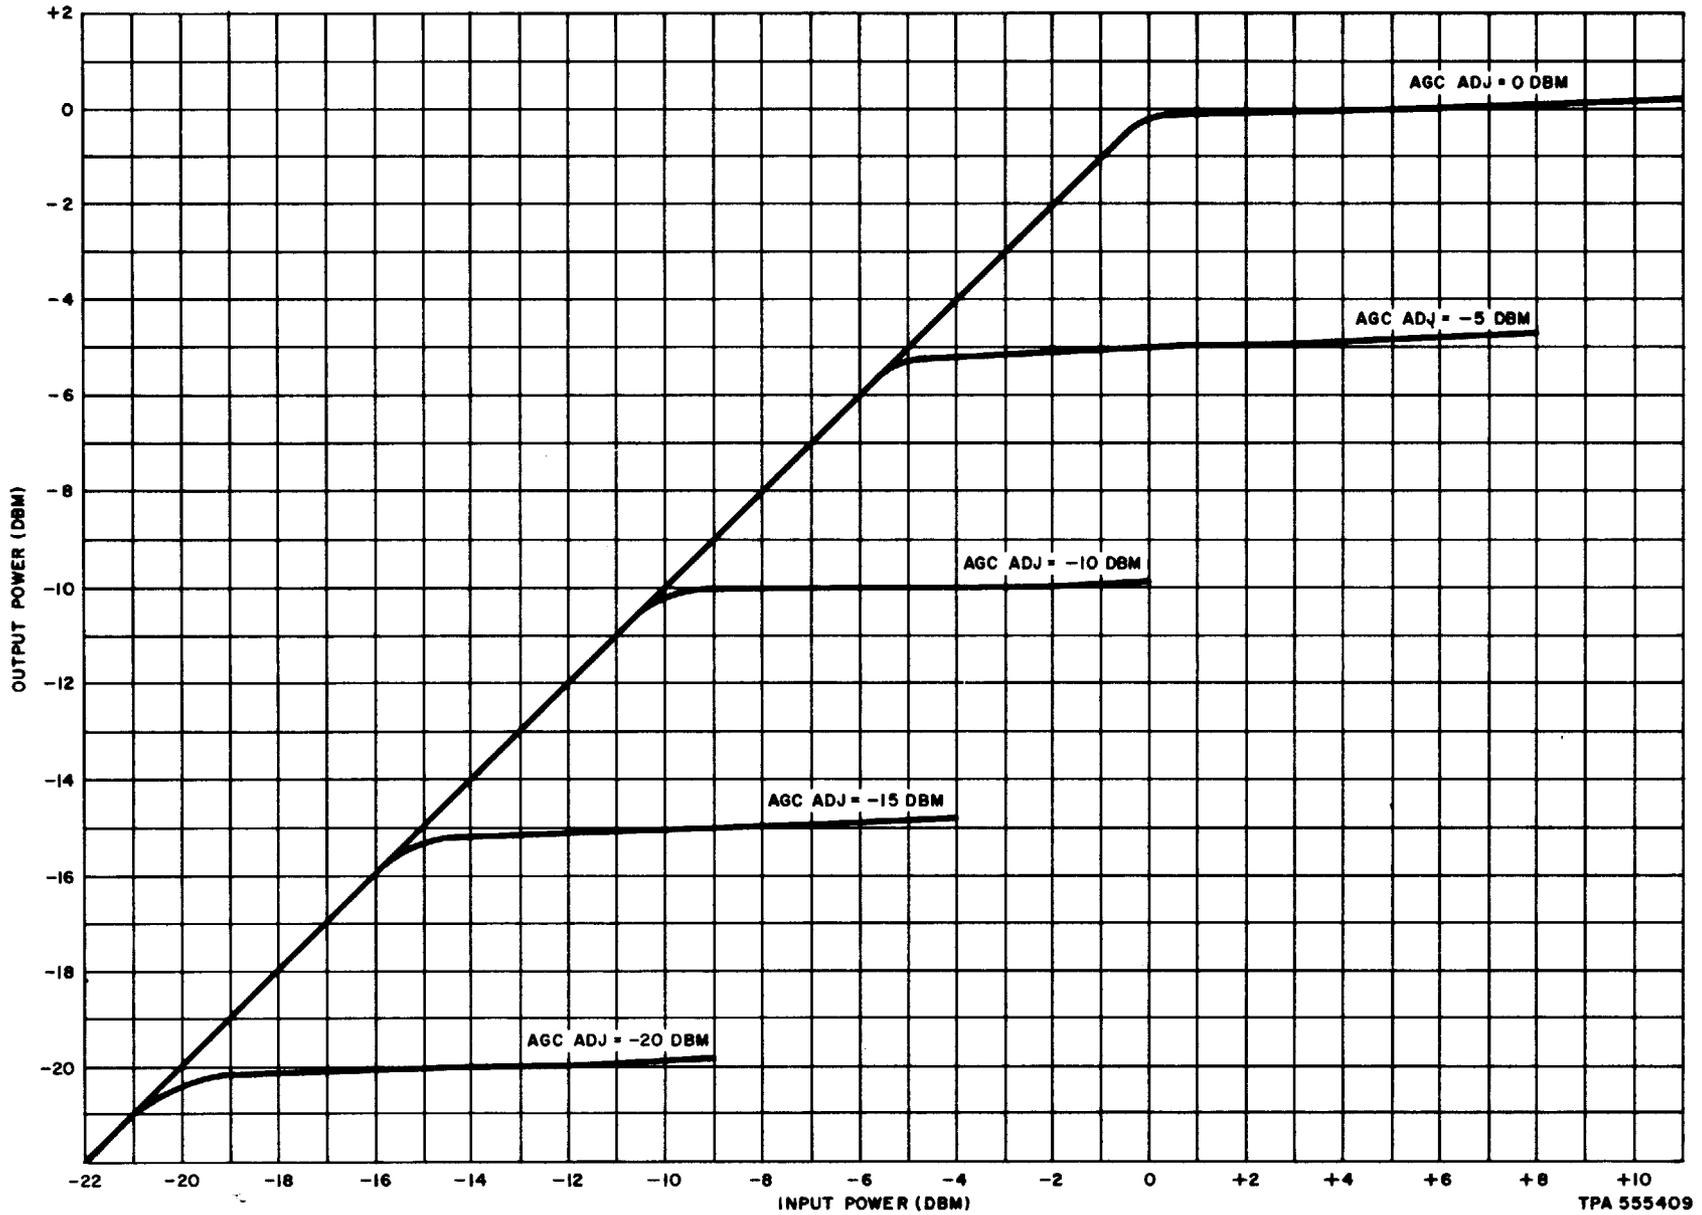

Fig. 3—F58122 Amplifier—Output Versus Input Power
4.01 Signals greater than the AGC ADJ level are clamped to the AGC ADJ level after an interval varying from 1 to 3 seconds (see Fig. 3).